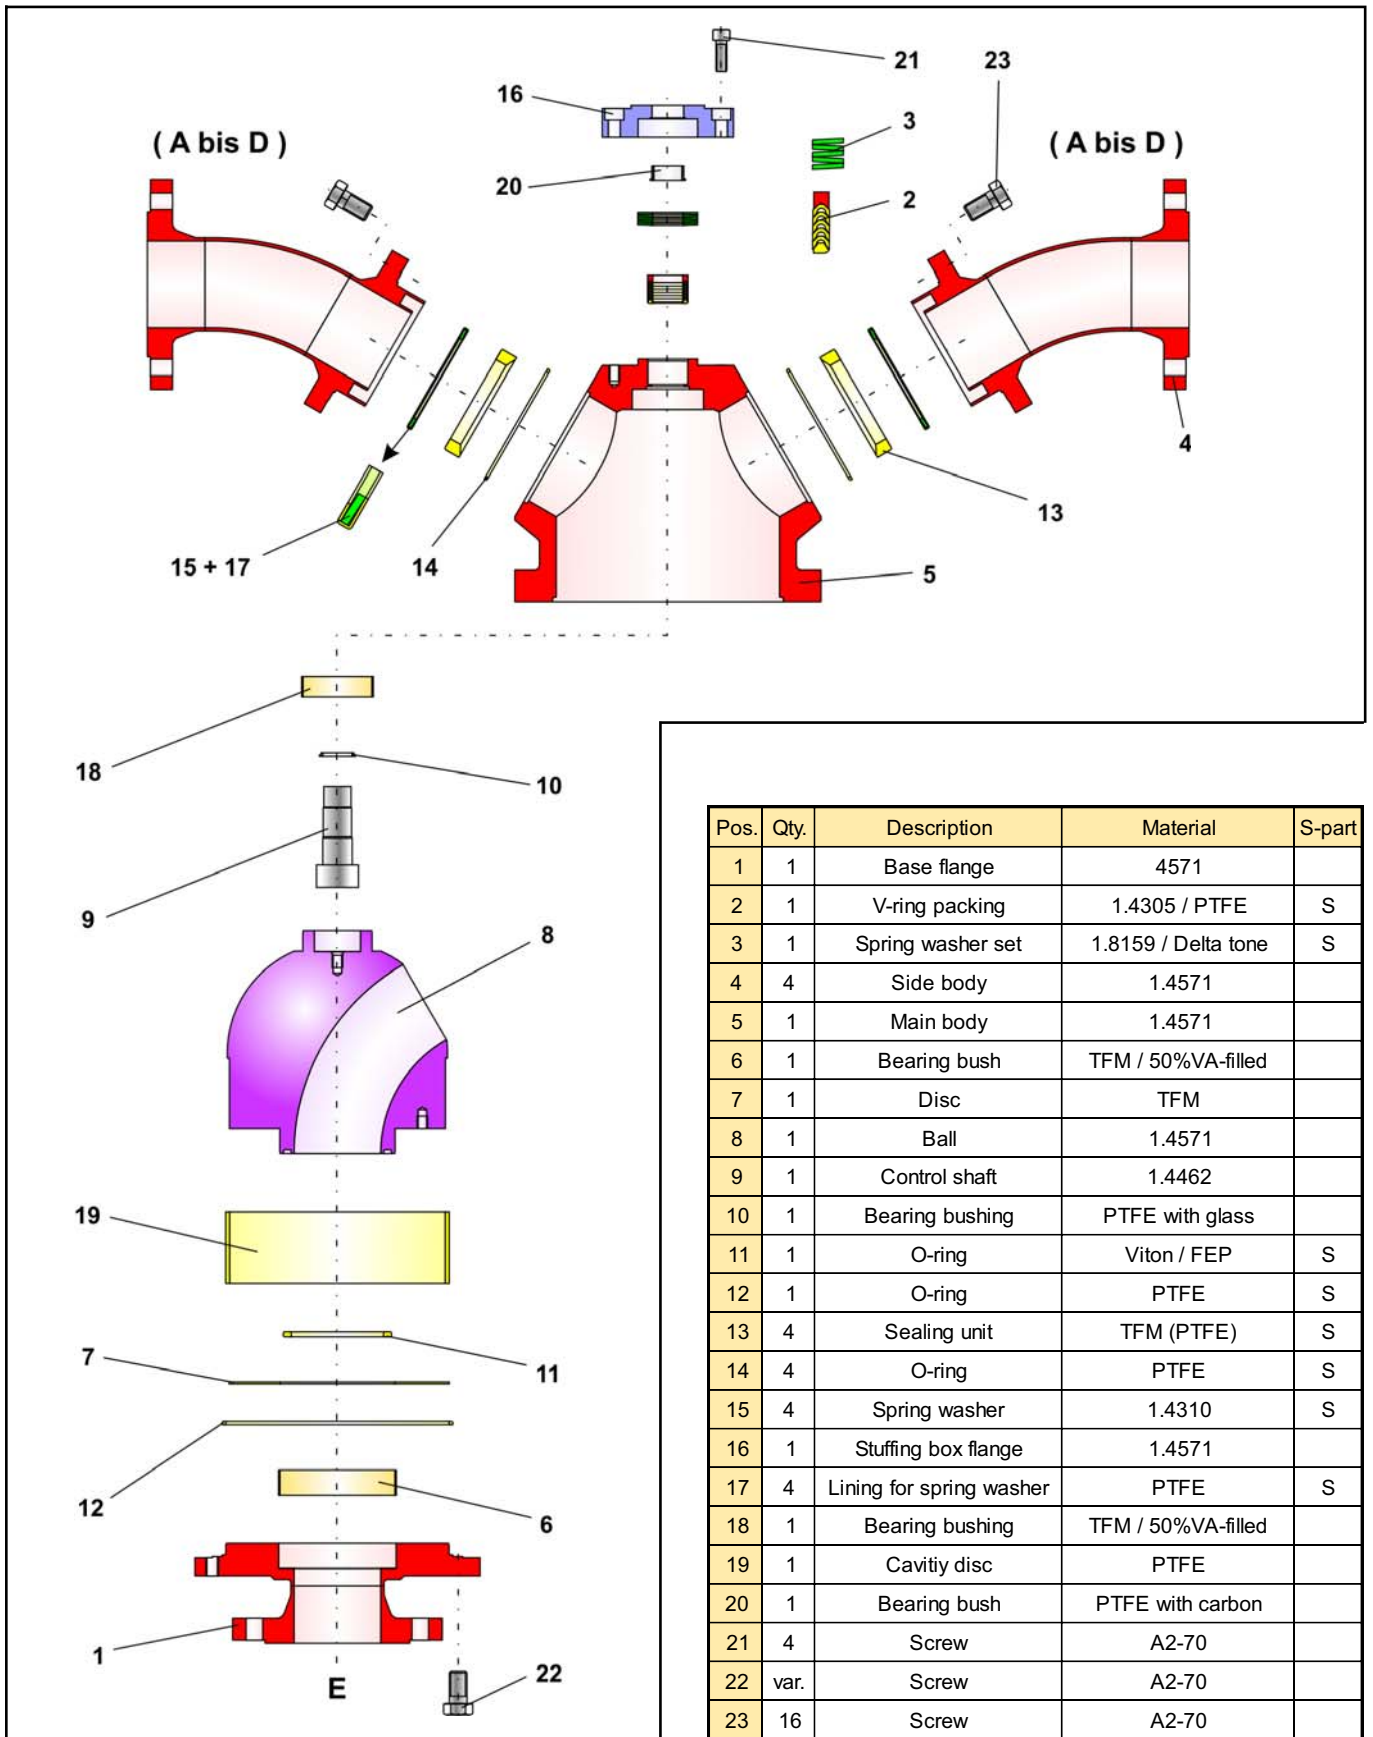

Fig. 5 - Explosion drawing of the 3-Way diverting valve, series 29a
Place the lined spring washers (15 and 17) in each of the side bodies (4). Refer to drawing (Fig. 5) for assembly position. The sealing ring (13) is pressed onto the spring washer (15)
For the arrangement of the V-rings, refer to the explosion drawing (Fig. 5). Now the spring washer set (3) is placed on the V-ring packing. For the arrangement of the spring washers, refer to (Fig. 5).